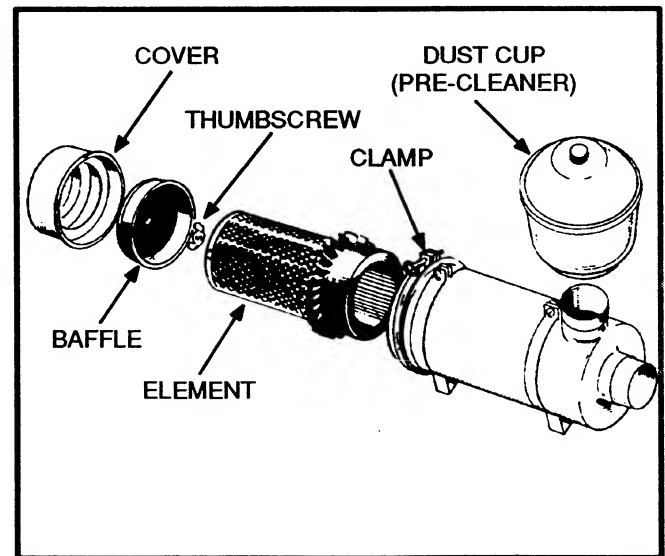

FIGURE 9-5. HEAVY DUTY AIR CLEANER
1. Remove pre-cleaner (Figure 9-5) and wash out dirt. Dry and reinstall.